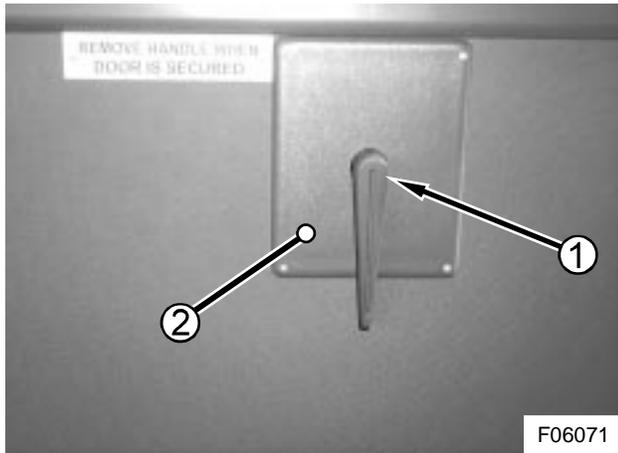

Figure 2: Emergency door handle (1) and linkage cover plate (2)
- 1) If an emergency door handle is fitted, undo the Allen set screw and remove the handle (see 1, Figure 2).
- 2) Undo and remove the self-tapping screws securing the panel which covers the emergency door handle linkage (see 2, Figure 2).